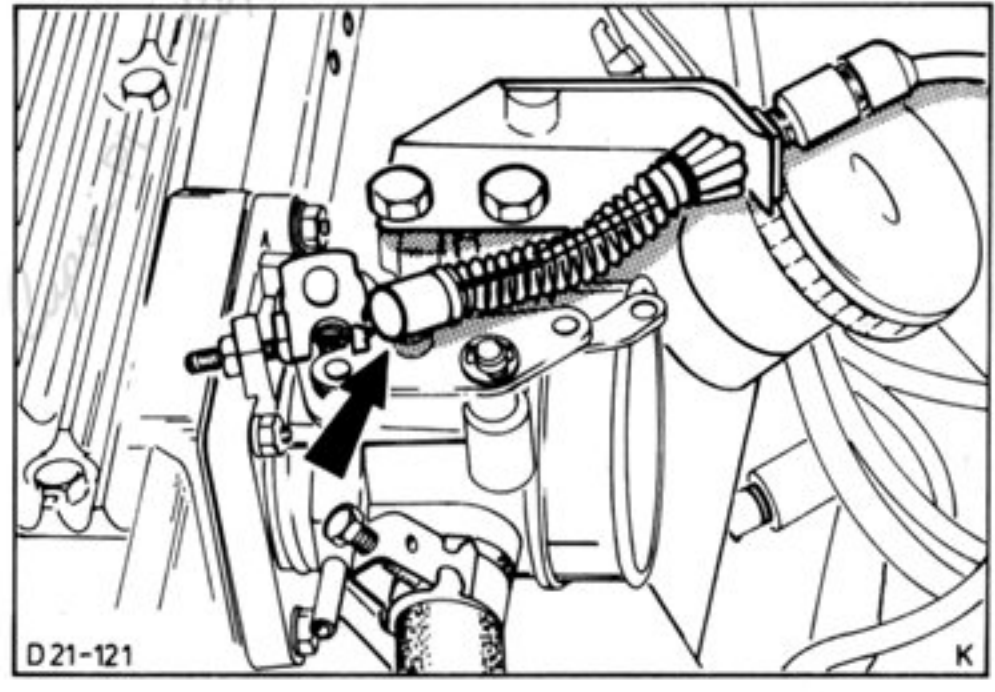

Fig.8. Disconnect throttle cable.
7. Disconnect connecting hose from intake silencer. Disconnect throttle cable at throttle lever and remove with bracket (2 screws), Fig.8.